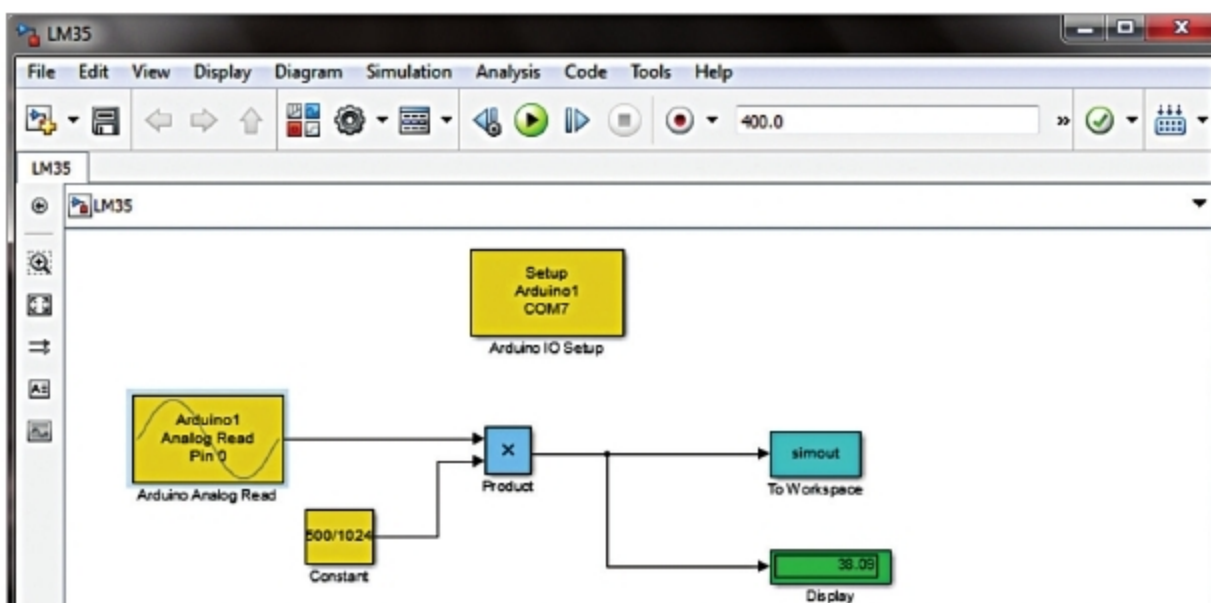

Fig. 3: Screenshot of the Simulink model
- Open Simulink LM35.slx source code file from MATLAB. The screenshot of the designed Simulink model is shown in Fig. 3